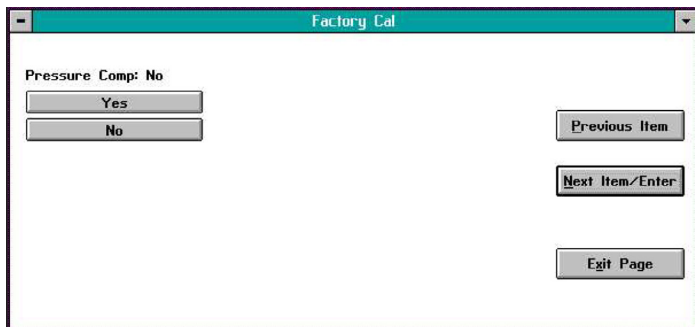
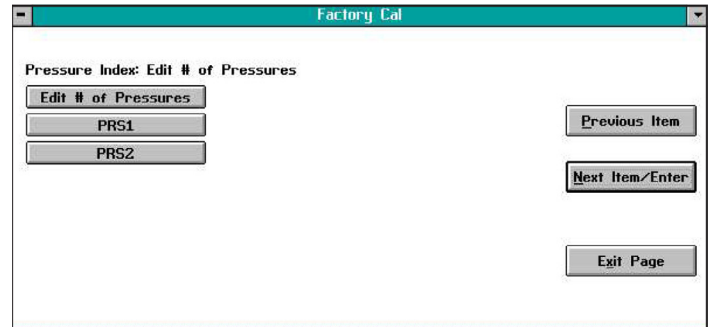
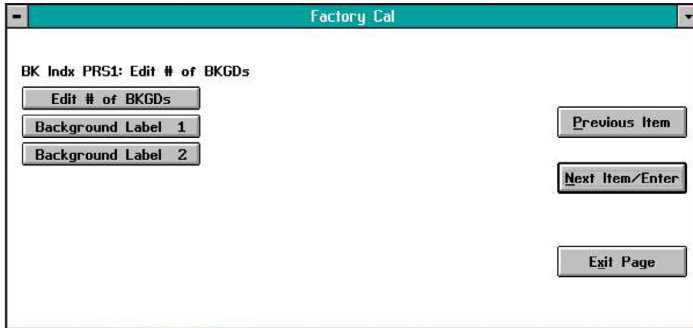
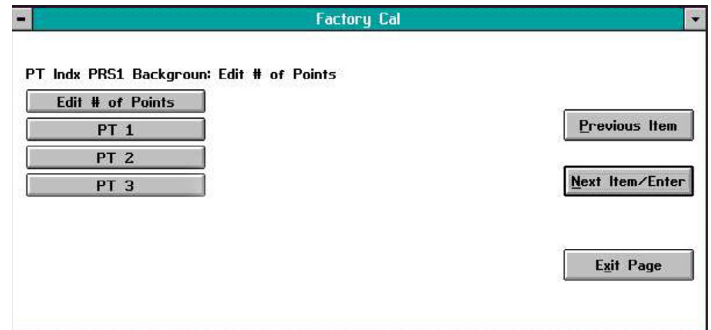

Figure 42: Pressure comp window
Figure 43: Edit # pressures window
Figure 45: Background gas window
Figure 47: PRS1 BKGD points window
If you did not enter any background gas labels or upon entering your final background gas label, a window similar to *Figure 42* below opens.
When you click on the Yes button in *Figure 42* on page 29, a window similar to *Figure 43* below opens.
In *Figure 44* above, enter the number of pressures for which you have compensation data. Then, press the Next Item/Enter button to return to the window in *Figure 43* above.
To begin entering your data points for each of the pressure compensation curves, click on the *PRS1* button in *Figure 43* on *page 29* to open a window similar to *Figure 45* below.
In the above window, enter the number of background gases for which you have compensation data at the first compensated pressure. Then, click on the *Next Item/Enter* button to confirm your entry and return to the window in *Figure 45* above.
In the window shown in *Figure 45* on *page 30*, click on the *Background Label 1* button (the actual text on this button will correspond to the label you entered in the previous section) to open a window similar to *Figure 47* below.
To begin entering your data, click on the *PT 1* button in *Figure 47* above to open a window similar to *Figure 49* below.
1. Repeat the procedure beginning at *Figure 47* on *page 30* until you have entered data for each parameter at all of the points listed.
2. Click on the Exit Page button to return to *Figure 45* on *page 30*.
3. Repeat the procedure beginning at *Figure 45* on *page 30* until you have entered data for each of the labeled background gases.
4. Click on the Exit Page button to return to *Figure 43* on *page 29*.
5. Repeat the procedure beginning at *Figure 43* on *page 29* until you have entered data for each of the listed pressures.
6. Click on the Exit Page button in *Figure 43* on *page 29*.